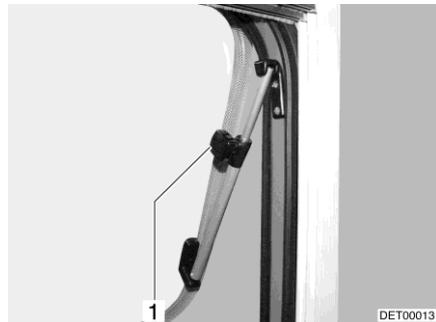

Fig. 95 Skylight with rotary hinges, open
- Open the skylight until the required position has been reached and use knurled knob (Fig. 95,1) to secure in position.
- Turn knurled knob (Fig. 95,1) until the latch is released.